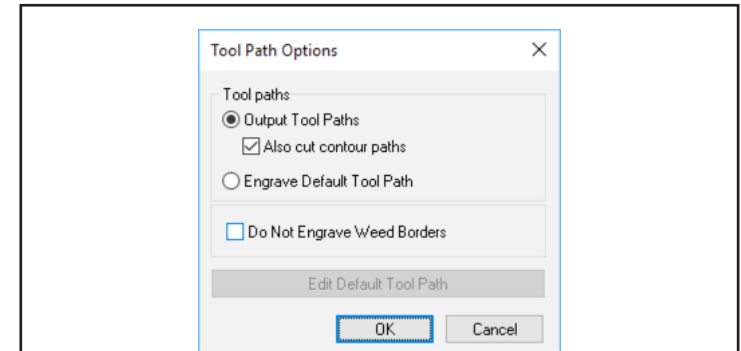

Fig. 9 - The **Tool Path** Options dialog is used to enable the creation of tool paths, or to automatically apply a default tool path to objects.
- With the **Output Tool Paths** checkbox clear, click the option to tick it. The **Tool Path Options** dialog will open (Fig. 9).